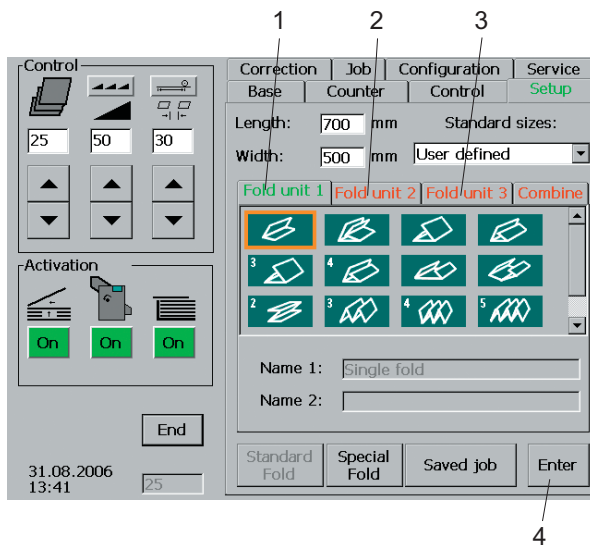

Fig. 20 Standard fold
1. Touch the *Fold unit 1* tab (Fig.20/1) (script colour changes)
If there are additional fold units, *Fold unit 2* (Fig. 20/2) resp. *Fold unit 3* (Fig. 20/3) are set in the same way.
3. Touch the *Enter* key (Fig. 20/4).